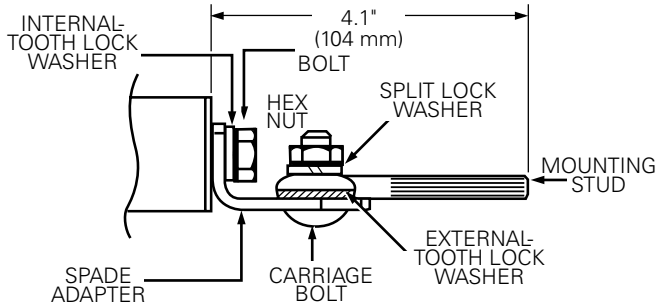

Figure 13. Universal adapter terminal.
2. Place the internal-tooth lock washer onto the bolt and insert the bolt through the spade adapter hole into the tapped center hole of the fuse and torque the bolt to 10-15 ft-lbs. (Figure 13.)